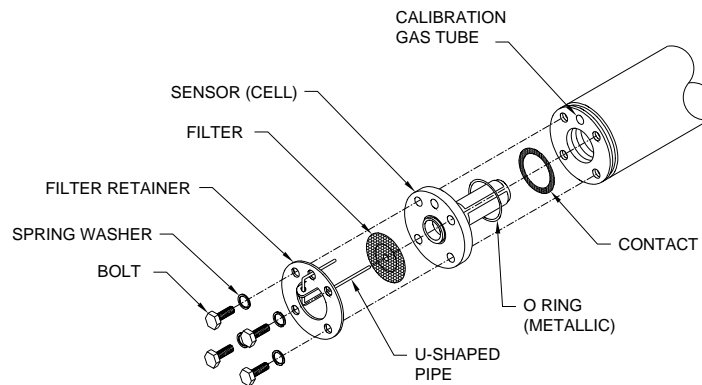

Figure 22: Parts in Sensor Assembly
- 1) The zirconia cell is packaged inside of the ZO21D detector box, in a styrofoam cup. Remove the cell, and using a 5/16" wrench, secure the cell as shown in Figure 22. The bolts are tightened according to the sequence shown. Use approximately 52 lb•in (60 kg•cm) of torque. Please note that bolts are pre-attached to the ZO21D detector, and are not inside of the styrofoam cup with the zirconia cell.